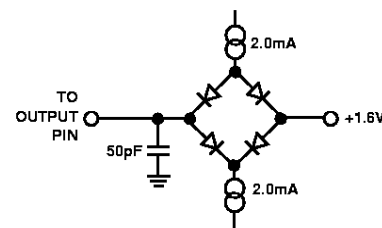

Figure 1. Load Circuit for Access Time and Bus Relinquish Time
- ³ Measured with the load circuit of Figure 1 and defined as the time required for an output to cross 0.8 V or 2.0 V.
- ⁴ Derived from the measured time taken by the data outputs to change 0.5 V when loaded with the circuit of Figure 1. The measured number is then extrapolated back to remove the effects of charging or discharging the 50 pF capacitor. This means that the time, t_6 , quoted in the timing characteristics is the true bus relinquish time of the part and, as such, is independent of external bus loading capacitances.